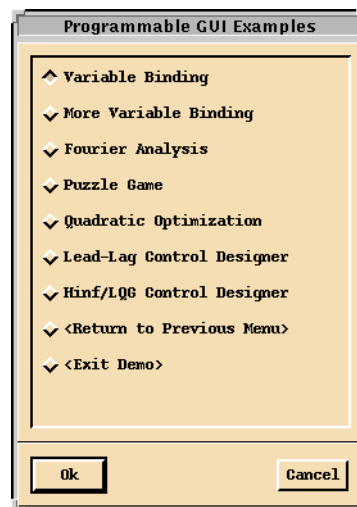

FIGURE A-1 Programmable GUI Examples
To see a menu of Programmable GUI examples, enter `guidemo` from the Xmath command area. This displays the menu shown in Figure A-1.
Figure A-1 lists a number of GUI demos. You can start a demo as follows.
- a single-selection list allows only a single line to be selected. Clicking the left mouse button selects a line. This is the type of list that appears in the window shown in Figure A-1 on page A-1.